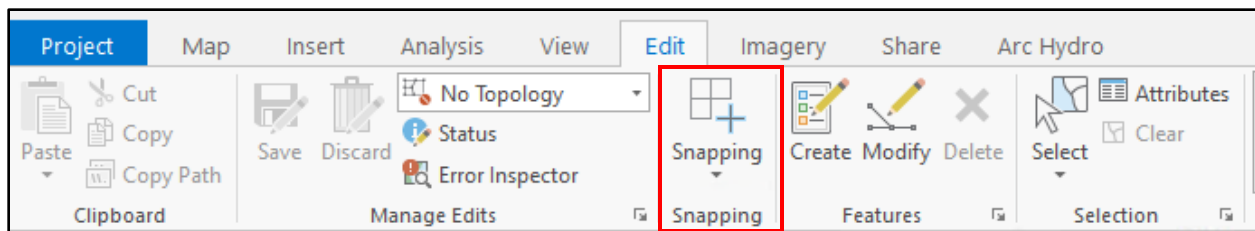

Figure 34. Enabling snapping in ArcGIS Pro.
- Ensure snapping is enabled within ArcPro. This can be done by toggling the CTRL + F5 key, or by clicking "Snapping" on the Edit tab (Figure 34, below).